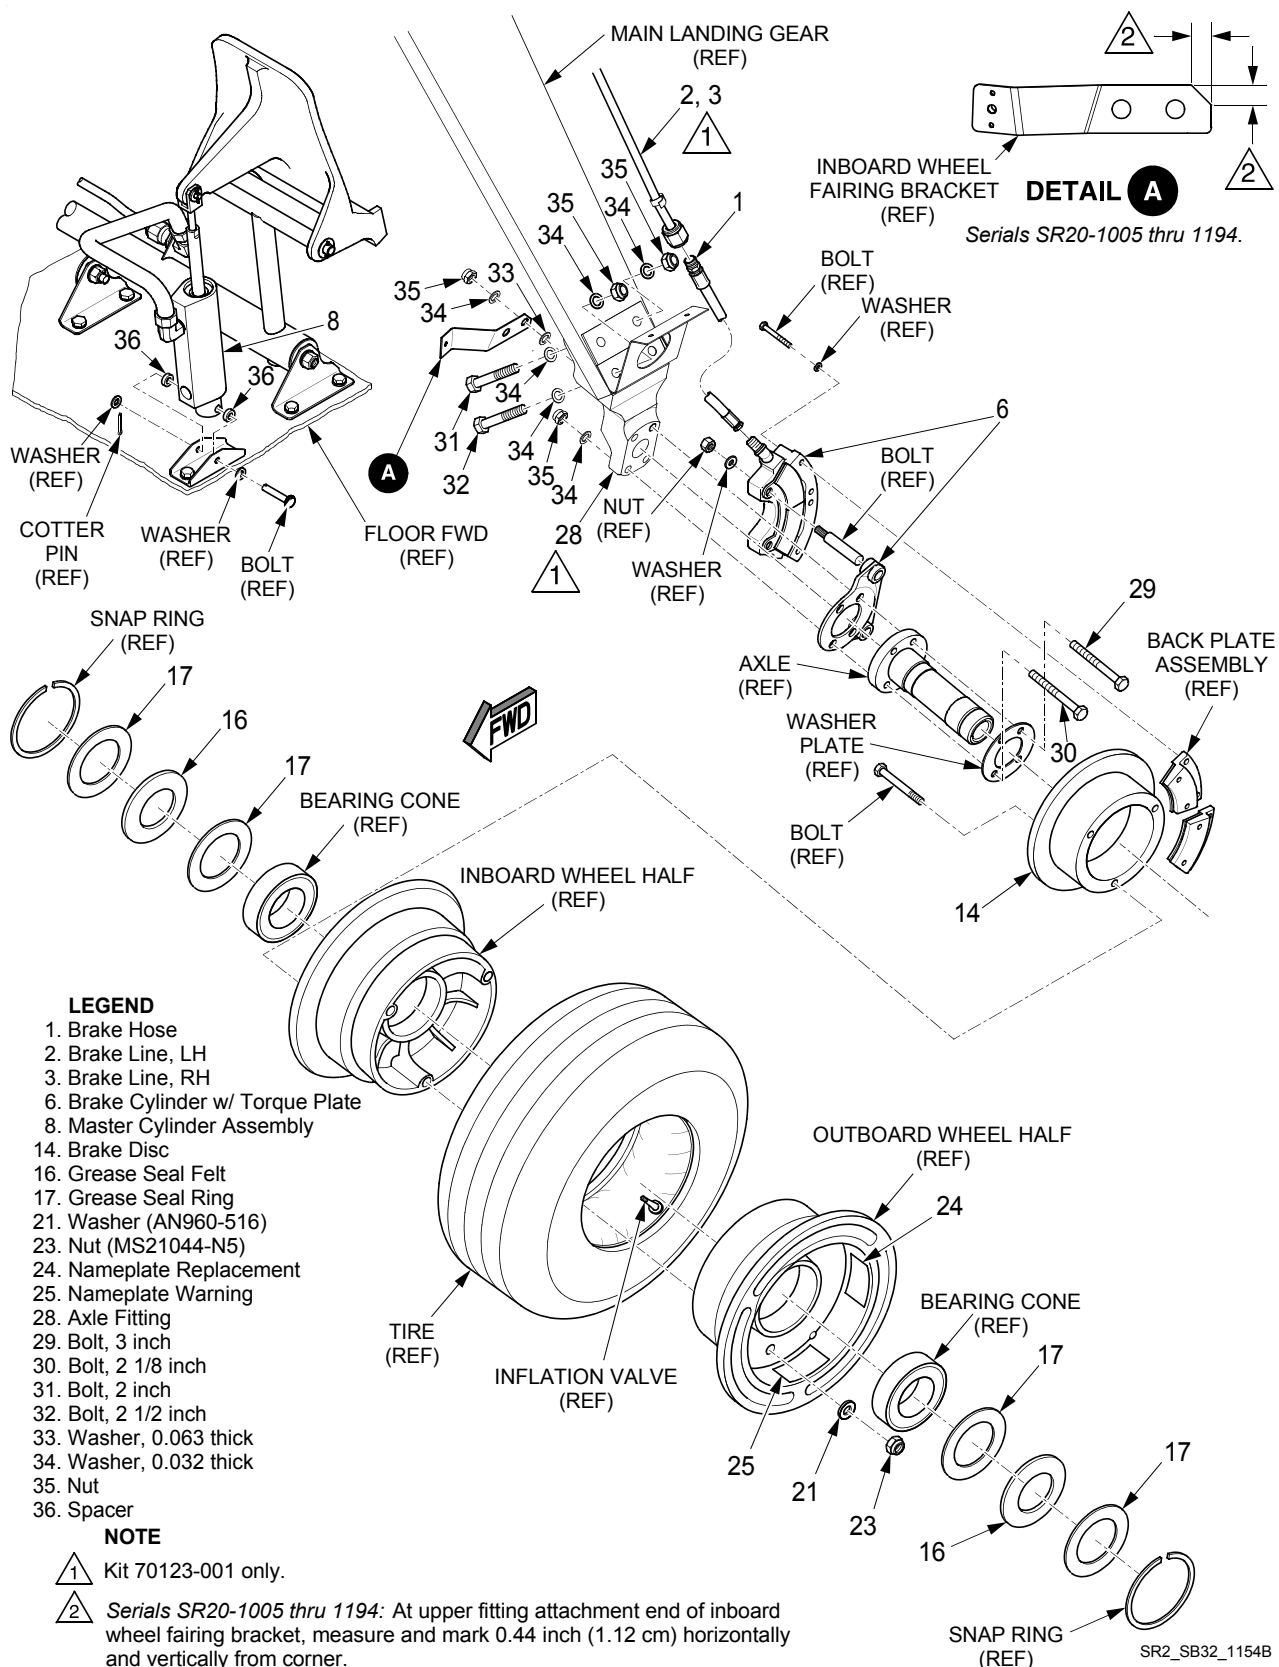
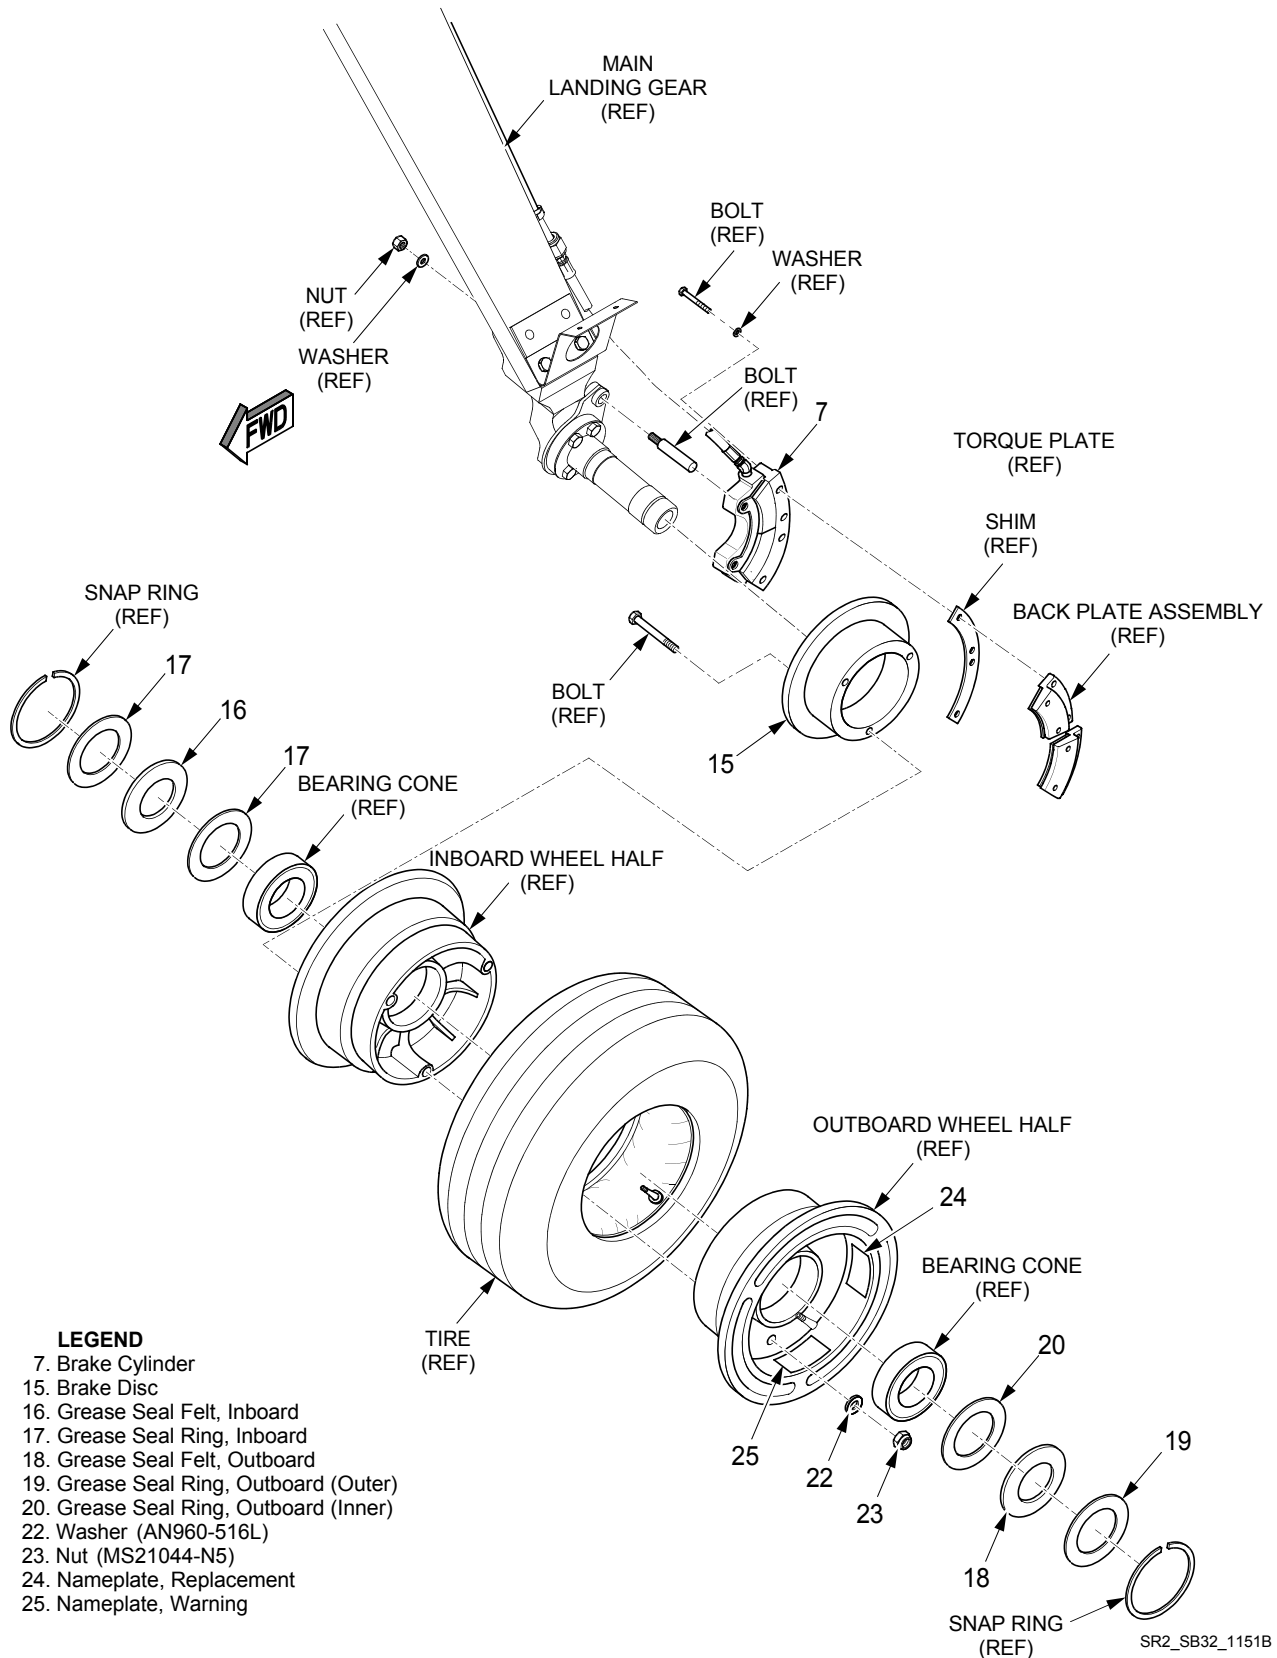

Figure 01 - Wheel Conversion and Brake Upgrade (Serials SR20-1005 thru 1600)
Figure 02 - Wheel Conversion and Brake Upgrade (Serials SR22-0002 thru 1739)
5. Replace labels. (See Figure 01), (See Figure 02)
- (1) Apply light coat of bearing grease to inner diameter and inner face of grease seal felts (item 16), (item 18).
- (2) At inboard wheel, install bearing cones, grease seal rings (item 17), and grease seal felt (item 16) into inboard wheel half and secure with snap ring.
- (3) At outboard wheel, install bearing cones, inner grease seal ring (item 20), grease seal felt (item 18), and outer grease seal ring (item 19) into outboard wheel half and secure with snap ring.
9. *For kit 70123-001:* Modify inboard wheel fairing bracket. (See Figure 01)